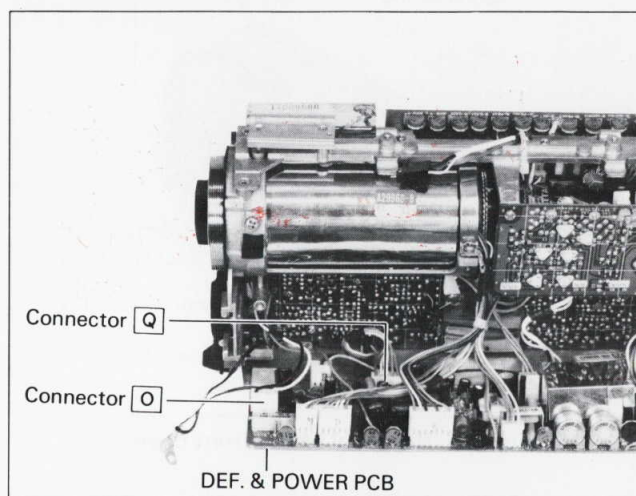

Fig. 9-9 Removal of SSG & ENCODER PCB (1)
- (1) Remove **DEF. & POWER PCB** as shown in item 2 of 9-4.
- (2) Disconnect connectors [O] and [Q] on **DEF. & POWER PCB** shown in Fig. 9-9.
- (3) Remove **PROCESSING PCB** as instructed in item 1 of 9-4.
- (4) Disconnect all connectors on **PROCESSING PCB**.